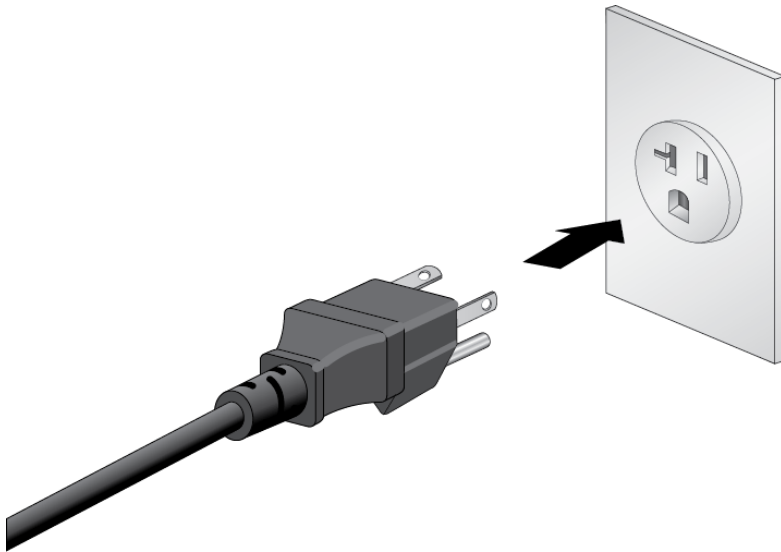

Figure 49. Connecting the Power Cord to an AC Power Source
3. Connect the power cord to an appropriate AC power source. Refer to Figure 49 on page 83.